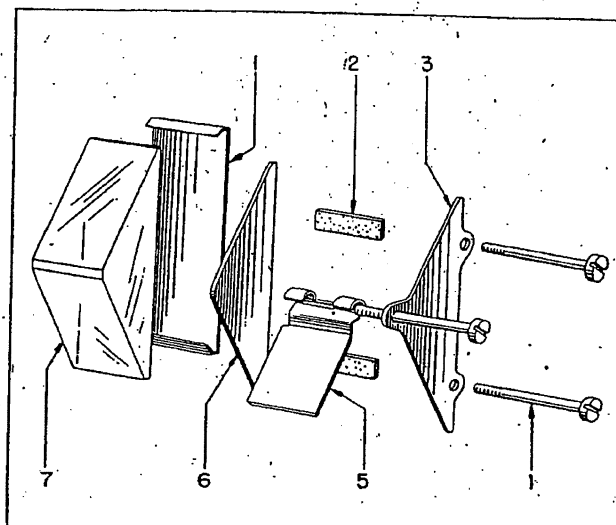

Figure 23—Field Prism Assembly
KEY TO FIGURE 23
n. FIELD PRISM ASSEMBLY INSTALLATION. (See figure 23.)—Position field prism with two corks (2) and shield (1) attached, on sector assembly. Add prism cushion (6), field prism plate (3) and fasten with three prism mounting screws (4). Insert shade (5) between fixed prism and upper fixed prism mounting screw and attach it to the center field prism mounting screw (4).